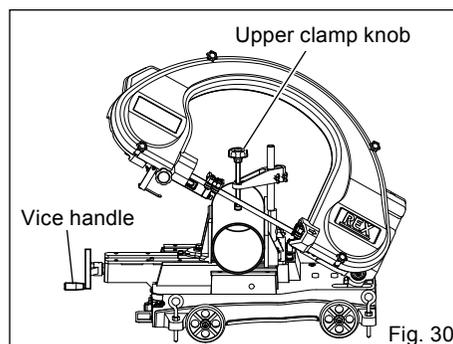

Fig. 30
## 4. Removing the Workpiece (Fig. 30)
- (1) Turn the valve lever all the way to the right and lift the frame with the grip. (Fig. 30)
- (2) Turn the upper clamp knob anti-clockwise and then turn the vice handle anti-clockwise too. (Fig. 30)
- (3) Remove the workpiece.